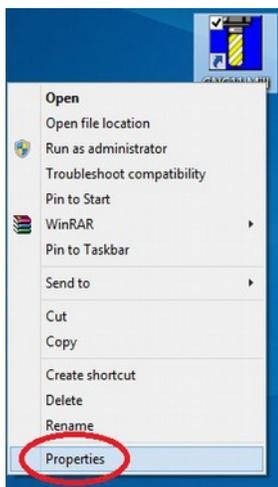

Figure 4.3.1
2. Click **properties** as shown in figure 4.3.1.